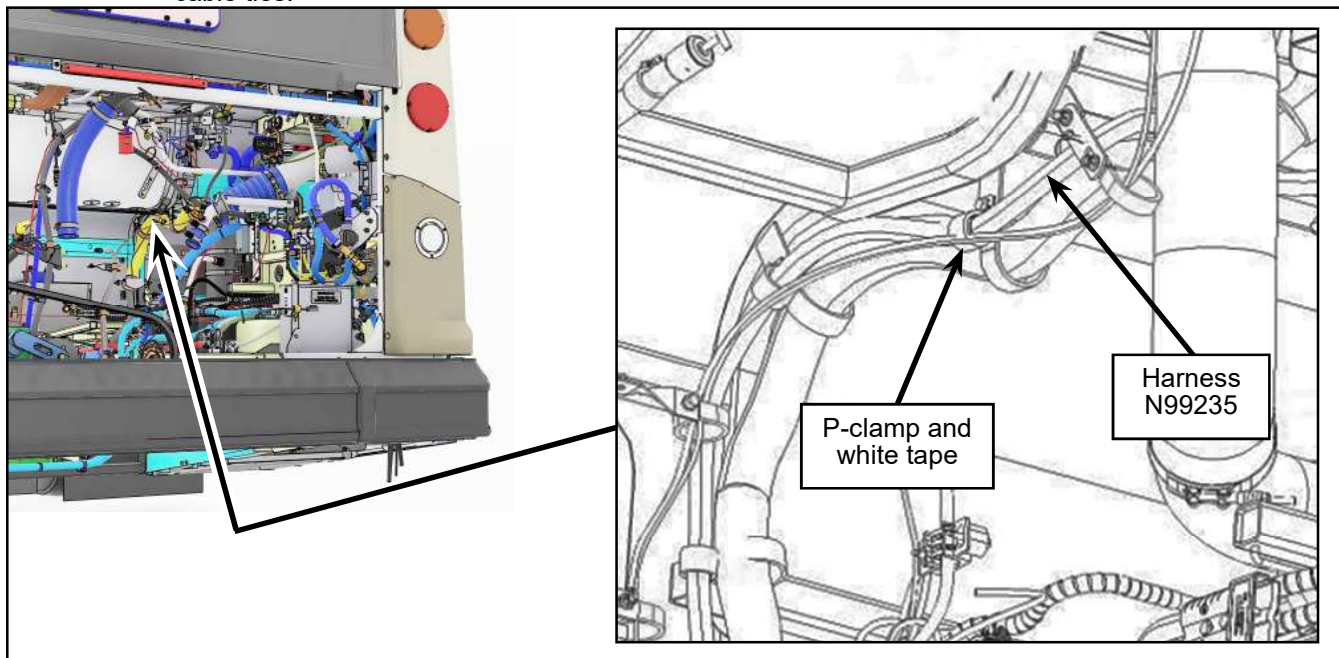

Figure 20 - Attach the Harness to the First P-clamp at the White Tape (Some Components Removed For Clarity)
- 2.2.2. Start the routing of the new N99235 harness at the interior back panel connector. Follow the original routing and using the white tape as reference, attach the harness to the first P-clamp (see Figure 20). Then attach the harness section between the interior back panel connector and the first P-clamp with cable ties.